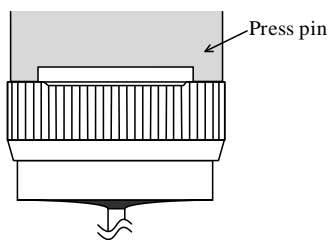

Figure 25 Recommended Press Pin Form
- Recommended press pin form: See Figure 25